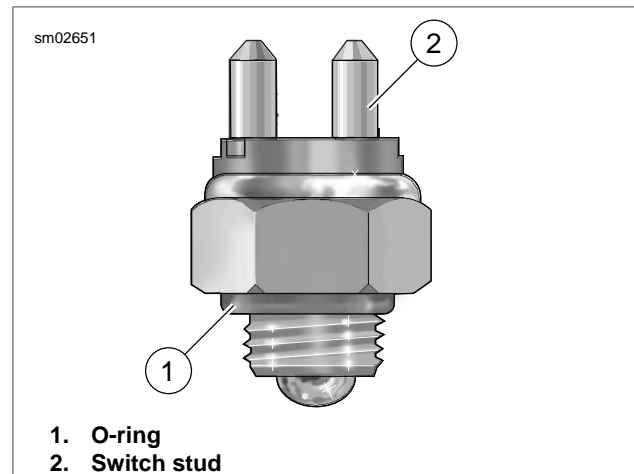

Figure 8-62. Neutral Switch
1. See Figure 8-62. Lubricate O-ring with transmission oil.